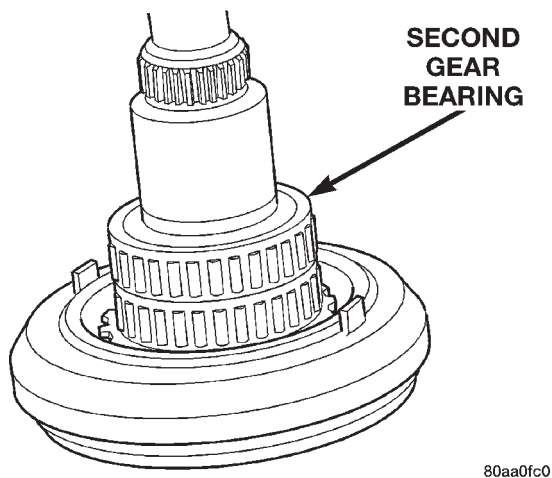

Fig. 103 Second Gear Bearing Installation
(12) Install second gear bearing on mainshaft (Fig. 103).